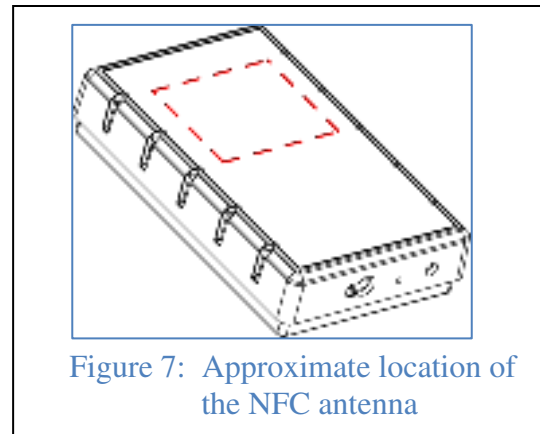

Figure 7: Approximate location of the NFC antenna
3. Place the middle-back of the phone over the area indicated in Figure 7 and hold it in this location until the prompt is removed.